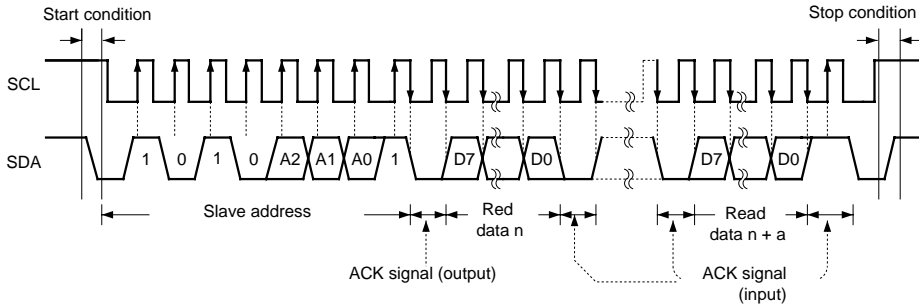

Fig.16 Sequential read cycle (BR24C01A / AF)
- When an ACK signal LOW is detected after D0 and a stop condition is not sent from the master ( $\mu$ -COM), the next word address data can be read. [All words all read enabled] (See Figures 16 to 18 for the sequential read cycles.)
(9) Random read
(10) Sequential read